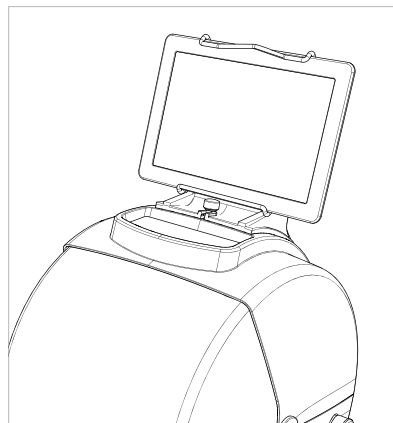

Fig. 15
- 5) Fit the tablet into its stand (Fig. 15).